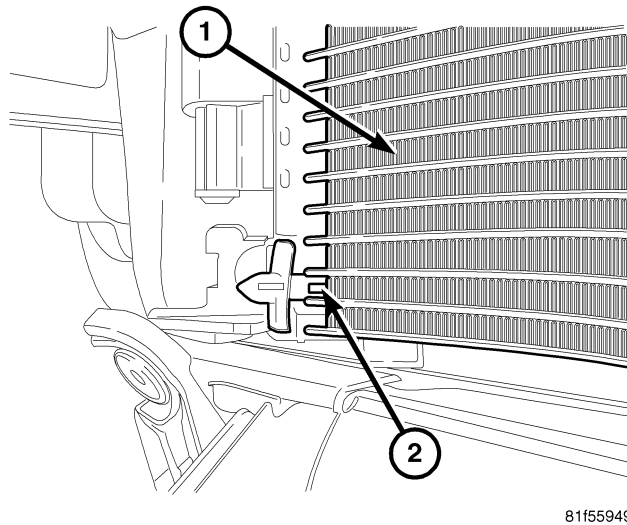

Fig. 5 CLIP INSTALLATION
16. Install double ended mounting clips p/n 68044838AA at both sides of the condenser in the 2nd row of tubes from the bottom (Fig. 5).